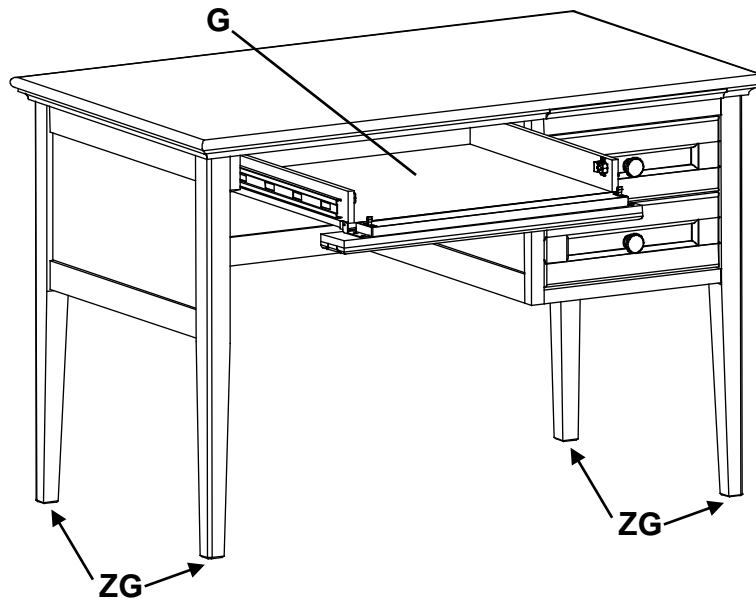

Fig. 7
- The center drawer (G) can be used as a keyboard tray or utility drawer. To use it as a keyboard tray, open the drawer and pull down on the front. This unlocks the roller catches. To lock it back into place, push up on the drawer front. See Figure 7. The shortened drawer back allows easy cord access.
- Place the desk at its final destination. To level the unit, rotate the Adjustable Glides (ZG) found on the bottoms of the legs. See Figure 7.